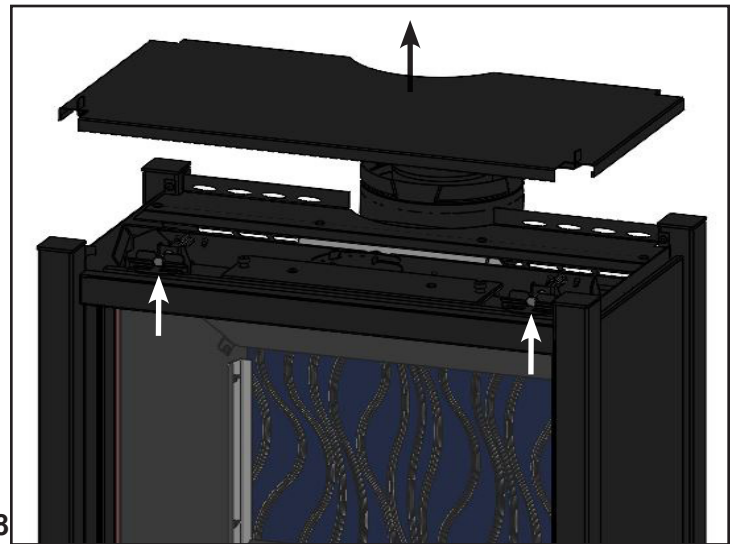

Fig. 8
1. Remove the Top Lid from appliance and set aside. (Fig. 8)
2. Locate the two Door Latch Springs on top of the Firebox. Pull both tabs forward, up, and off the upper door tabs. (Fig. 8)